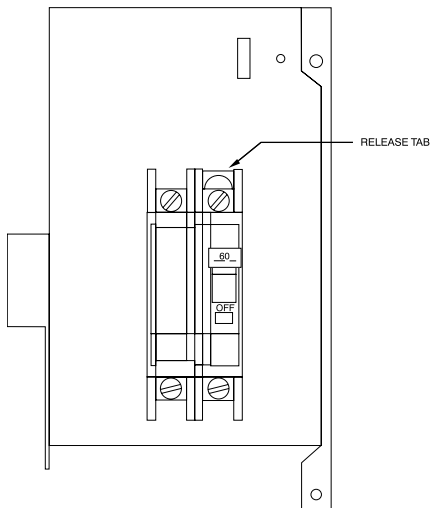

Fig. 22 — Conversion of Circuit Breaker
2. Pull the white plastic release tab on the bottom of circuit breaker straight out to release the circuit breaker from the bracket (Fig. 22).